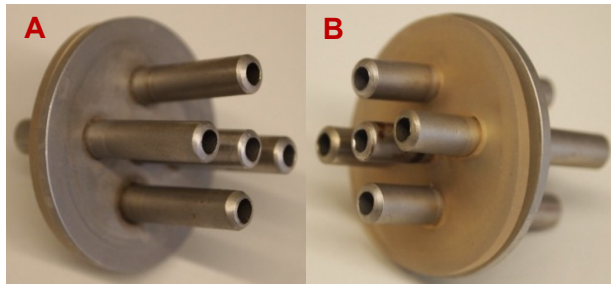

Figure 4
Self-made 5-port device (made by stainless steel) inner (lower) side without (A) and outer (upper) side with silicone gasket (B) is shown in Figure 4